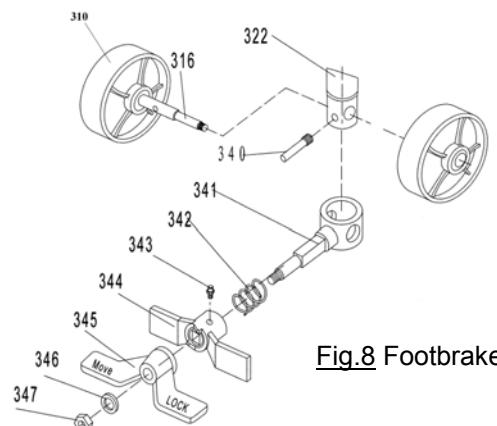

Fig.8 Footbrake
To apply the brake step on the "LOCK" side of the Brake plate (fig. 8, pos.345) until its angle is 45°. To release the brake step on the "MOVE" side of the Brake plate (fig. 8, pos.345) until it is in horizontal position.